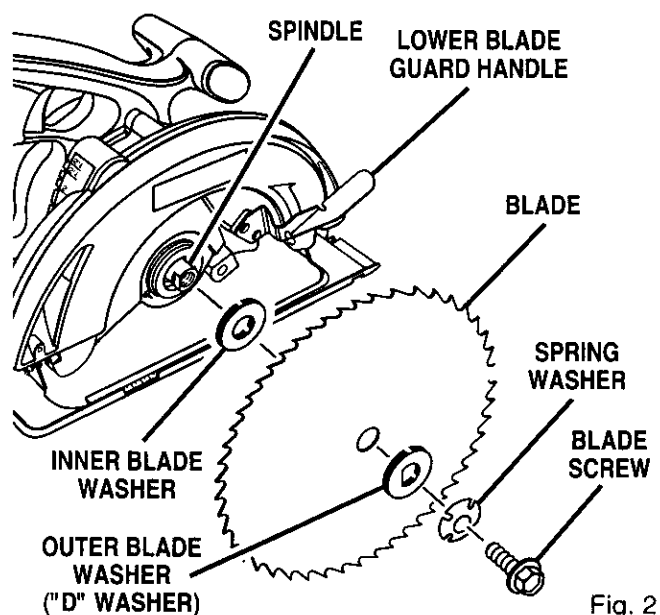
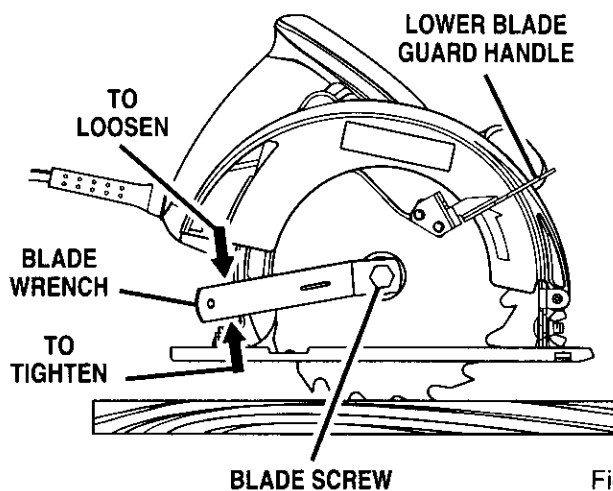

Fig. 2
Fig. 4
See Figures 2, 3, and 4.
- Place your saw on a piece of wood as shown in Figure 4, and remove blade screw. See Figure 2.
- Remove spring washer, and outer blade washer ("D" washer). See Figure 2.
- Fit saw blade inside lower blade guard and onto spindle. **Note:** The saw teeth point upward at the front of saw as shown in Figure 2.
- Place your saw on a piece of scrap wood as shown in Figure 4, and remove blade screw. See Figure 2. **Note:** With blade teeth embedded in the wood, turn blade screw counterclockwise to remove.
- Remove spring washer and outer blade washer ("D" washer). See Figure 2. **Note:** Blade can be removed at this point.